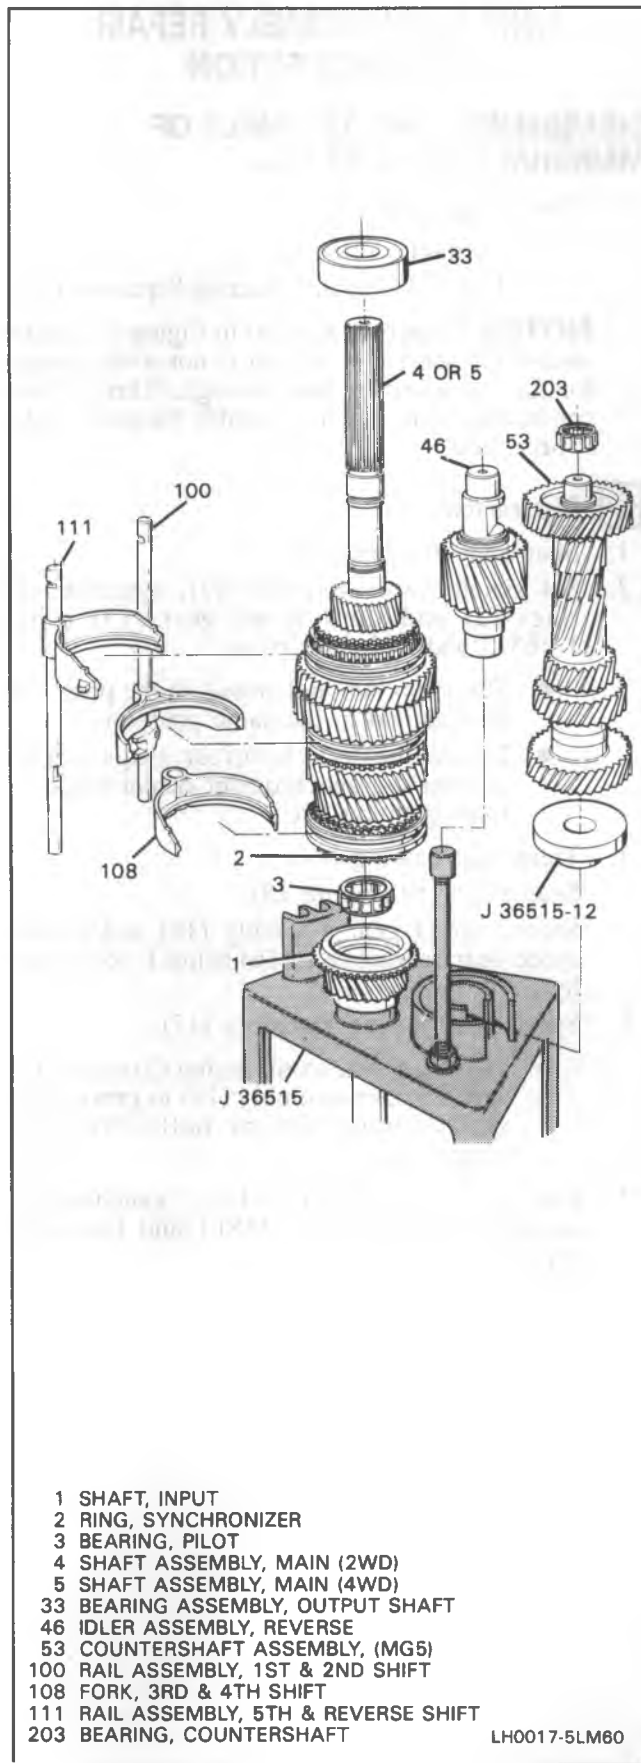

Figure 16 Removing Gears and Shift Rails
30. Reverse idler gear assembly (46) and countershaft (53) (Figure 16).
31. 1-2 shift rail assembly (100), 5-Reverse shift rail assembly (111), 2 and 3-4 shift fork (108).
32. Mainshaft assembly (4) or (5).